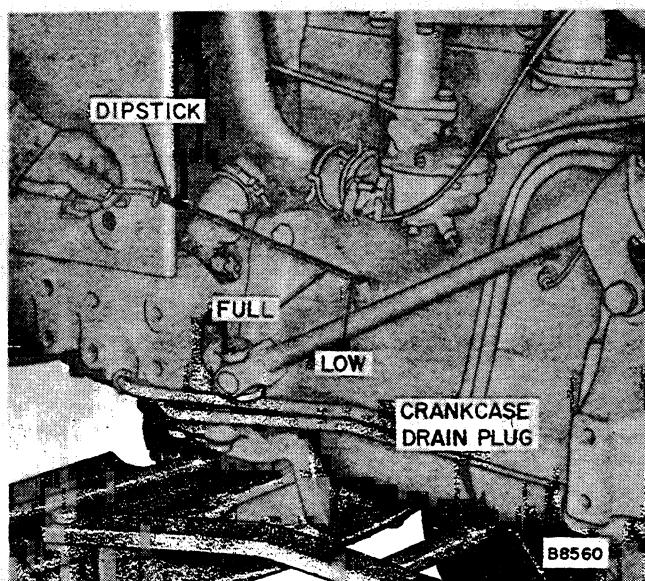

Figure 2 - Checking Oil Level (Gasoline Engine)
Check the engine oil level daily, before starting the day's work, by means of the bayonet gauge rod (dipstick), see Figures 2 and 3. The dipstick has "FULL" and "LOW" marks. Add sufficient oil through filler opening to have oil level just reach the "FULL" mark. DO NOT OVERFILL.
1. Drain oil, while hot, after the first 20 hours of operation; also change filter element. See Figures 2 and 3 for location of drain plug. After the initial oil change, change the oil after every 100 hours operation.